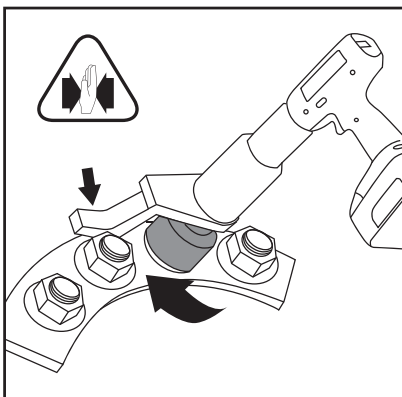

Figure 4A
Step 1. Position reaction bar close to the fixed reaction point and fit the tool onto the nut (fastener) to be tightened. Torque reaction bar should be adjacent to the fixed reaction point. See Figures 4A and 4B. Rotate the handle into a convenient position relative to the reaction bar.